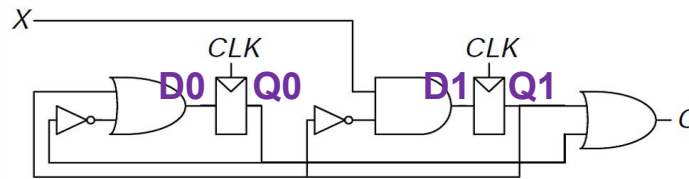

Fig.Q3
1. Analyze the FSM shown in Fig.Q3. Write the state transition and output tables and sketch the state transition diagram.